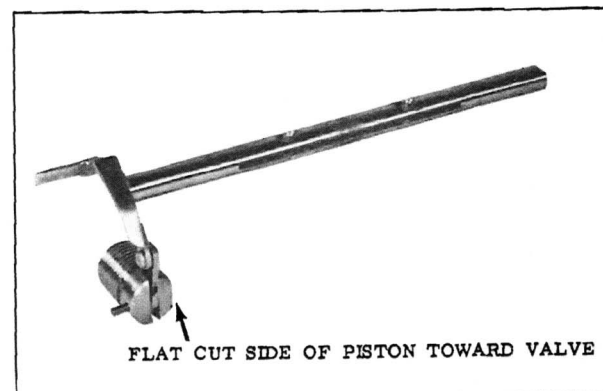

Fig. 28 Choke Piston and Shaft (Center Carburetor)
2. Assemble choke piston to shaft with pin, with flat cut side of piston toward choke valve as shown in Fig. 28. Install choke shaft and piston in air horn assembly.